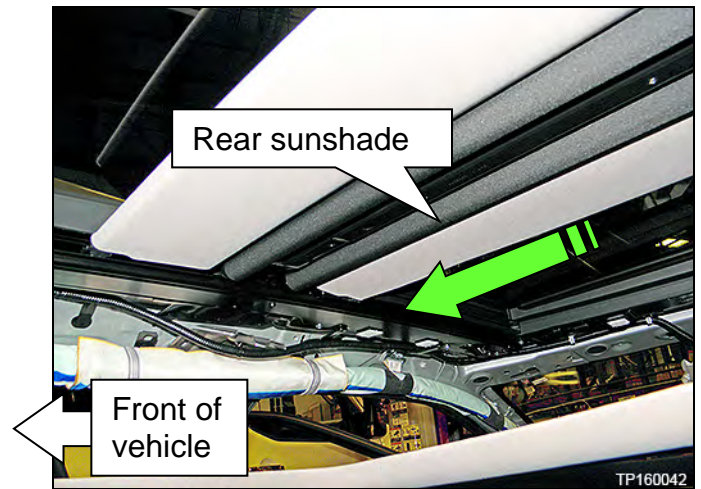

Figure 69
- a. Detach the rear sunshade by pulling it toward the right of the vehicle to compress tension spring (Figure 69).